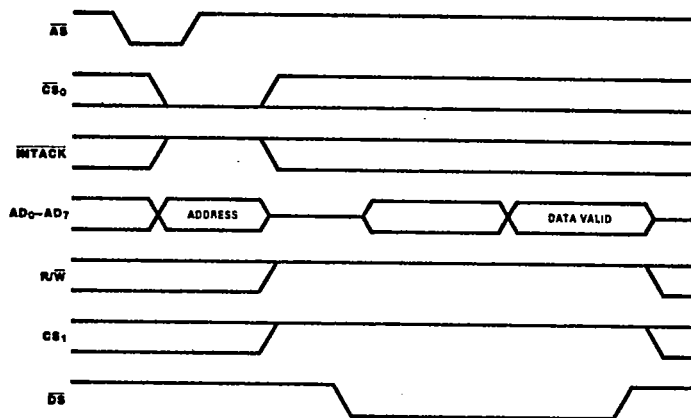

Figure 15. Read Cycle Timing
**Read Cycle Timing.** Figure 15 illustrates Read cycle timing. The address on  $AD_0-AD_7$  and the state of  $\overline{CS}_0$  and  $\overline{INTACK}$  are latched by the rising edge of  $\overline{AS}$ .  $R/\overline{W}$  must be High to indicate a Read cycle.  $\overline{CS}_1$  must also be High for the Read cycle to occur. The data bus drivers in the SCC are then enabled while  $\overline{DS}$  is Low.